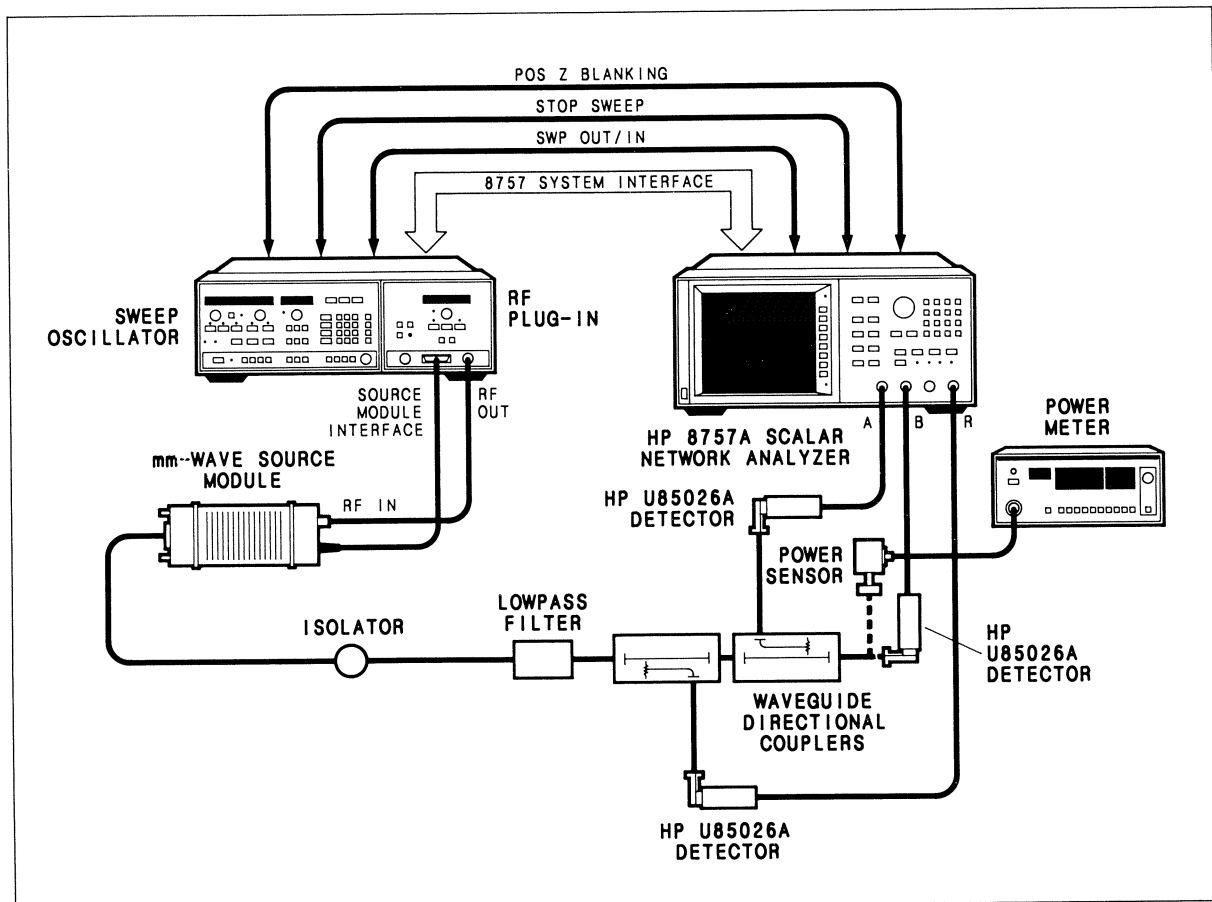

Figure 3-2. Flatness Performance Test Setup
1. Connect equipment as shown in Figure 3-2 with the power sensor connected to the coupler and allow the equipment to warm up for 30 minutes.
13. Disconnect the power sensor from the coupler. Connect the HP U85026A detector as shown in Figure 3-2.